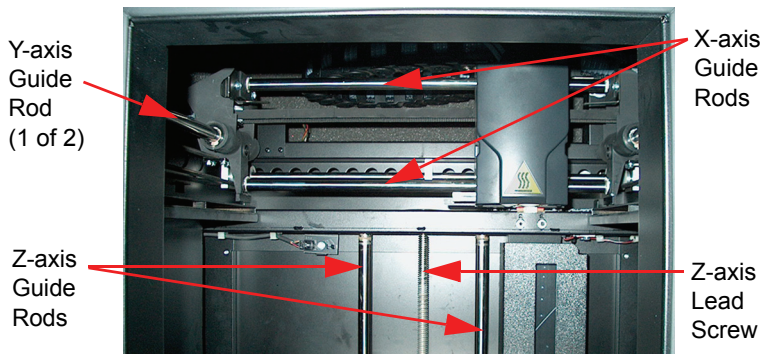

Figure 17: Lead Screw and Guide Rod Identification
1. Clean and lubricate the Z-axis lead screw (*drive screw*), X-axis guide rods (2), Y-axis guide rods (2), and Z-axis guide rods (2). See Figure 17 for locations.